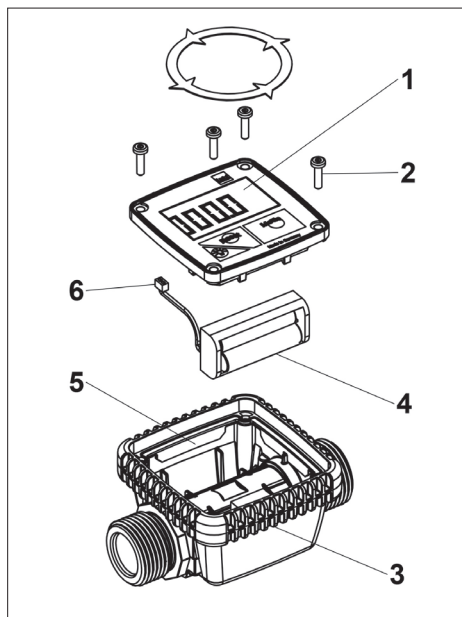

Fig. 6
The display of the flow meter TR3 (1) can be mounted either vertically or horizontally for easy reading depending on how the meter is mounted (→ Fig. 6).